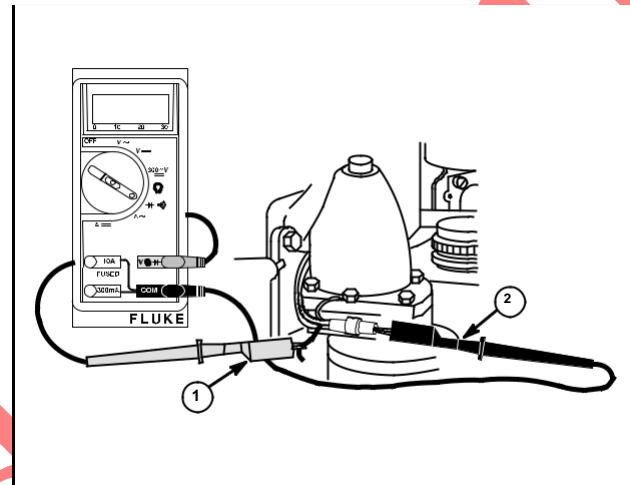

Fig. 24
1. Insert RED test lead (1) into $V\Omega\rightarrow$ receptacle in meter.
2. Insert BLACK test lead (2) into COM receptacle in meter.
5. Pierce one output wire with a pin and touch RED test lead probe to pin as shown in Fig. 24, Typical.